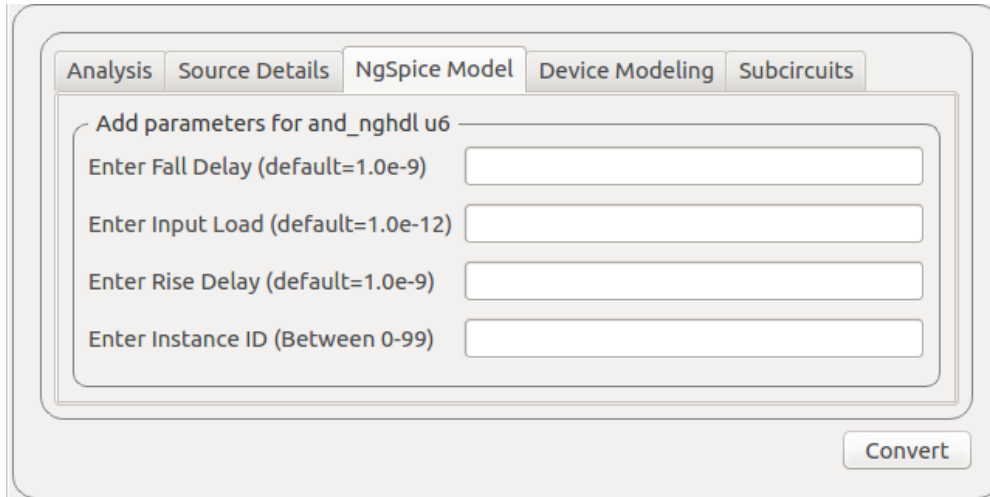

Figure 9.15: Model Parameters
7. Now select the option **Ngspice Model**, window as shown in Fig. 9.15 will appear. The values of the parameters listed can be changed per user's requirement. If you have used any semiconductor devices and Subcircuits in your design, then please specify the Spice models and subcircuits in the **Device Modeling** and **Subcircuits** tabs of the **KiCad-to-Ngspice converter** window. After that click on **Convert** button. This step will create the simulation compatible netlist.